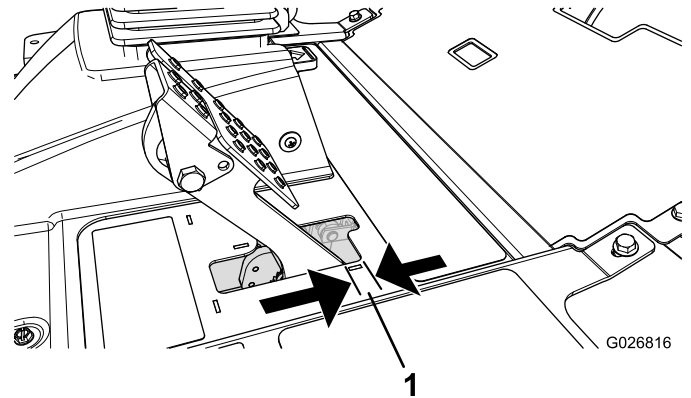

Figure 96
Adjust the brakes when there is more than 2.5 cm (1 inch) of free travel (Figure 96) of the brake pedal, or when more holding force is required. Free travel is the distance the brake pedal moves before you feel braking resistance.
2. Tighten the rear nut to move the cable backward until brake pedals have 0.63 to 1.27 cm (1/4 to 1/2 inch) of free travel (Figure 96), before the wheels lock up.